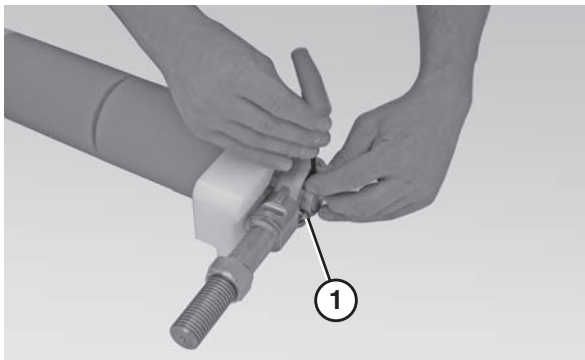

Figure 71
4. Use a 4 mm hex wrench (**Figure 71, item 1**) to loosen the bearing shaft assembly fasteners (**Figure 71, item 2**).